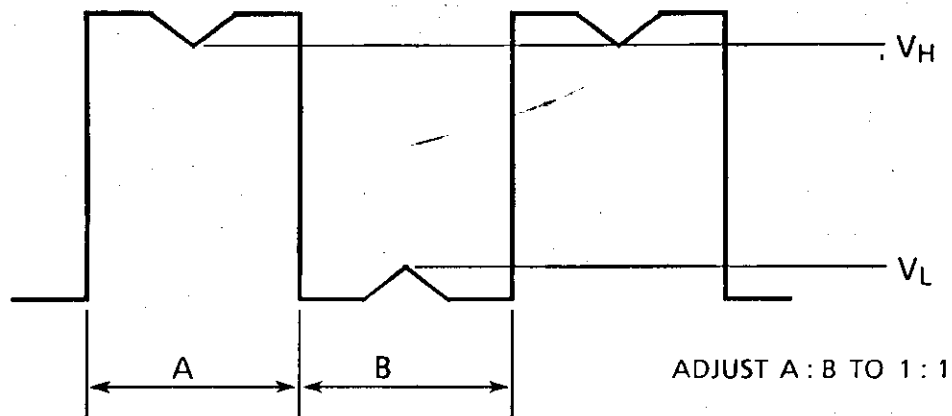

Fig. 5.6 Track 0 Waveform
(2) Step between specified tracks at in the FLAG 0 item of Table 4.1. (Turn the seek delay switch on the exerciser to adjust 12ms seek).
(3) Loosen the track 0 sensor screw and adjust until the waveform on the oscilloscope appears as shown in Fig. 5.6.